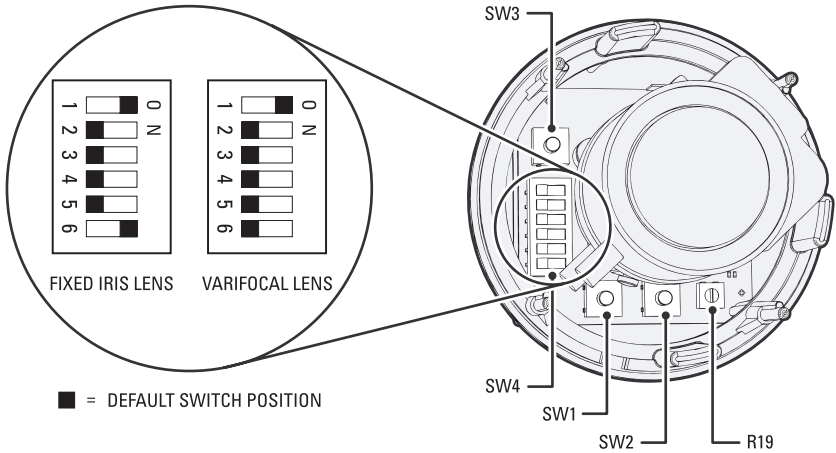
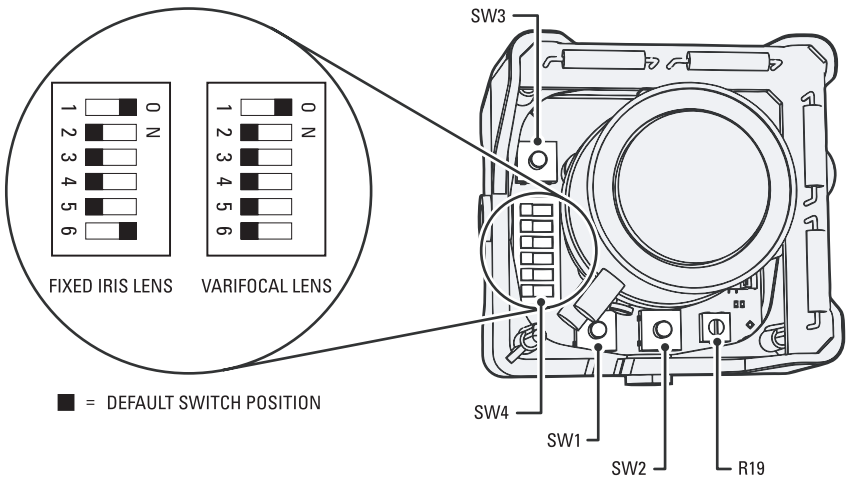

Figure 1. Adjusting an IS90-DN/CH/C Series Camclosure
Figure 2. Adjusting an IS110-DN/CH or IS150-DN-CH Series Camclosure
Refer to Figure 1 to adjust IS90-DN/CH/C models. Refer to Figure 2 to adjust IS110-DN/CH or IS150-DN/CH models.
To adjust the auto iris DC-drive level (refer to Figure 1 or Figure 2 on page 3):
2. Select the camera to synchronize. Use buttons SW1 and SW2 to synchronize the camera to the reference camera (refer to Figure 1 or Figure 2 on page 3). SW1 increases vertical phase; SW2 decreases vertical phase.
To manually correct defective pixels (refer to Figure 1 or Figure 2 on page 3):